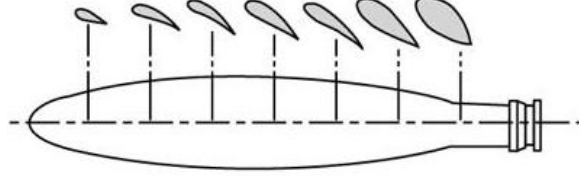

Figure 1.5: Cross sectional airfoils at different radial stations
- **numberOfPolars:** this will determine how many different polars will be needed to compute the forces in the propeller. It is not really common to have a propeller blade with constant airfoil shape along the radius, normally the shape of the aerofoil varies with the radius as can be inferred from Fig. 1.5. Thus, the user can choose the amount of polars that are needed to better represent the problem to simulate. This will be done via the *polarsData* sub dictionary and the file *polarsData.txt* that later will be described.